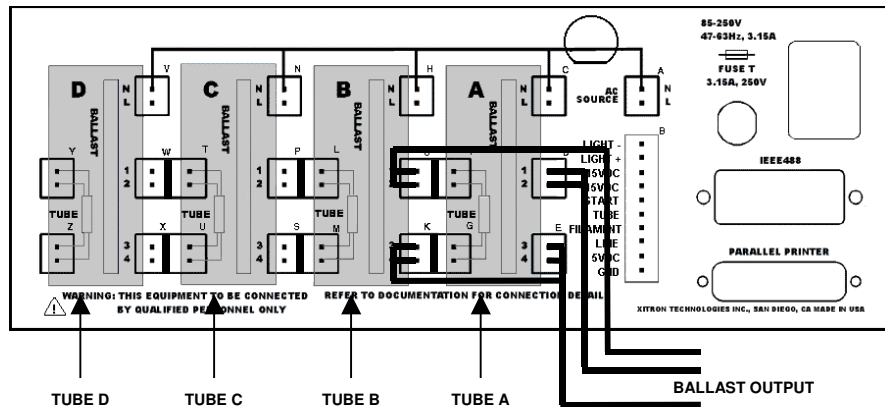

Figure 13. Example of Parallel Outputs from a Ballast
- Wire the output from the ballast to two (or more) sections of the 2574R connections in parallel as shown in *Figure 13*.